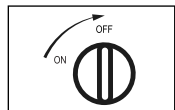

Fig. 5
1. Interrupt the gas supply by turning the rotary switch to the "OFF" position [Fig. 5]. Wait until the flame is completely extinguished before proceeding to the next step.